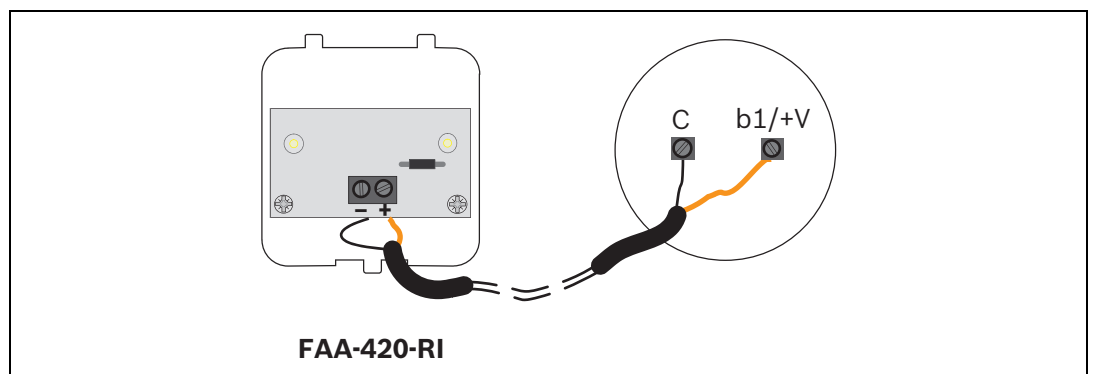

Figure 3.15 FAA-420-RI Connection
- Connect FAA-420-RI via two terminals (see *Figure 3.15*).